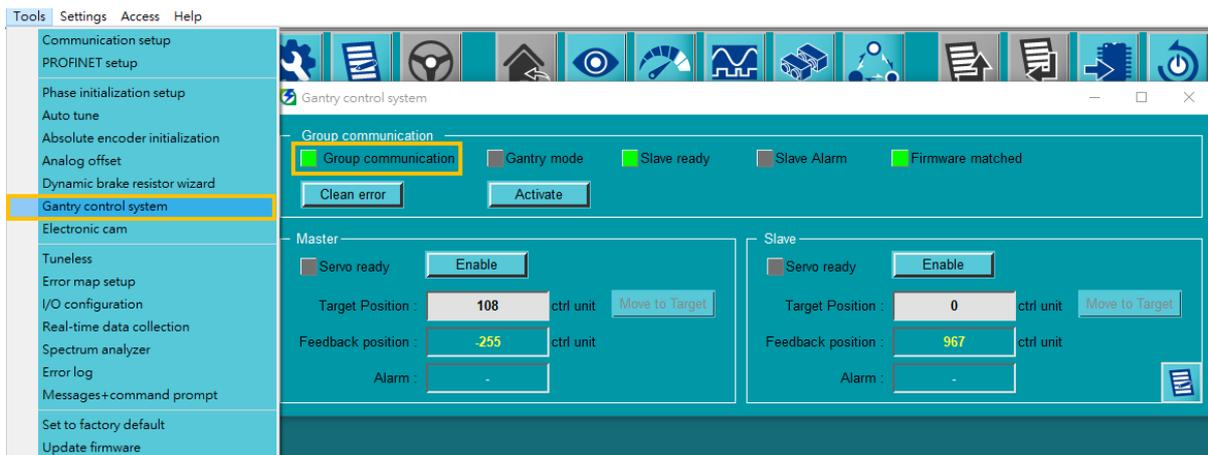

Figure 7.1 Open **Gantry control system** window
- (1) Select **Gantry control system** in **Tools**.
- (2) Ensure the status light of **Group communication** lights up in green (which means the communication between Master and Slave is fine), as figure 7.1 shows.